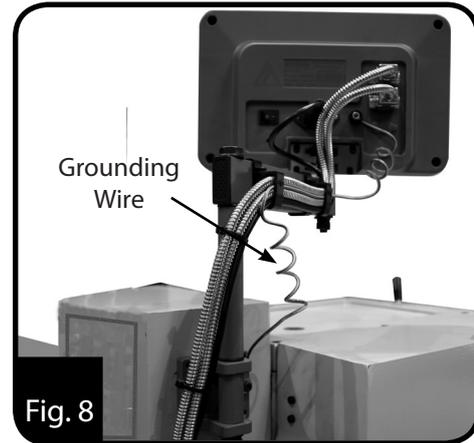

Fig. 8
9. Grounding / Earthing is very important for the noise immunity. The grounding wire must be attached between the metal body of the machine and the grounding pin on the back of the display unit to be effective. (Fig. 8)